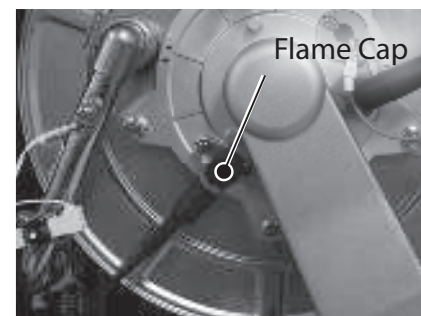

Figure 41 - Remove flame sensor cap
- 7 Locate the cap on flame sensor wire as shown in Figure 41. Pull cap from flame sensor in burner door and remove